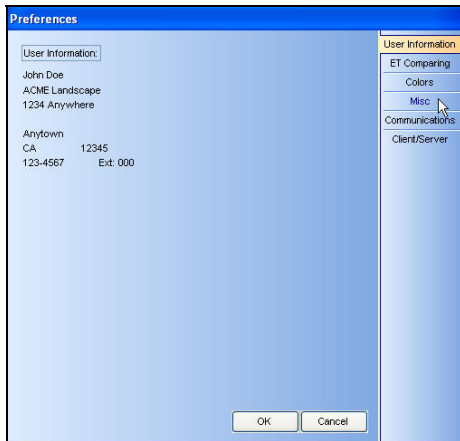

Figure 2.0.7
1. Click on the **Misc** tab (Figure 2.0.7).